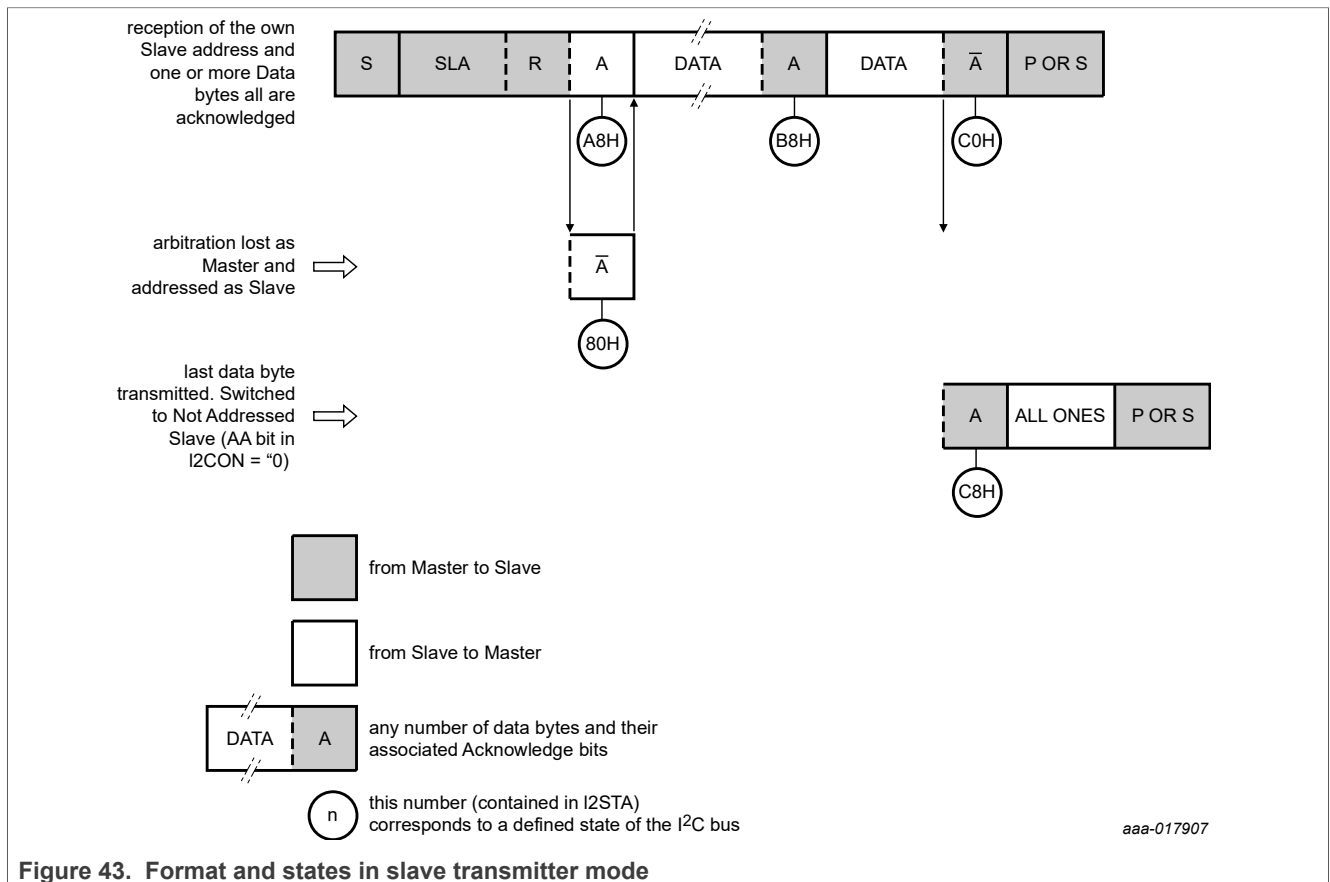

Figure 43. Format and states in slave transmitter mode
In the slave transmitter mode, a number of data bytes is transmitted to a master receiver (see Figure 43). Data transfer is initialized as in the slave receiver mode. When ADR and CON have been initialized, the I²C-bus block waits until it is addressed by its own slave address followed by the data direction bit. The data direction bit must be logic 1 (read) for the I²C-bus block to operate in the slave transmitter mode. After the I²C-bus block has received its own slave address and the R bit, the serial interrupt flag (SI) is set and a valid status code can be read from STAT. This status code is used to vector to a state service routine. Table 226 details the appropriate action to be taken for each of these status codes. If arbitration is lost while the I²C-bus block is in the master mode (see state 0xB0), the slave transmitter mode may also be entered.